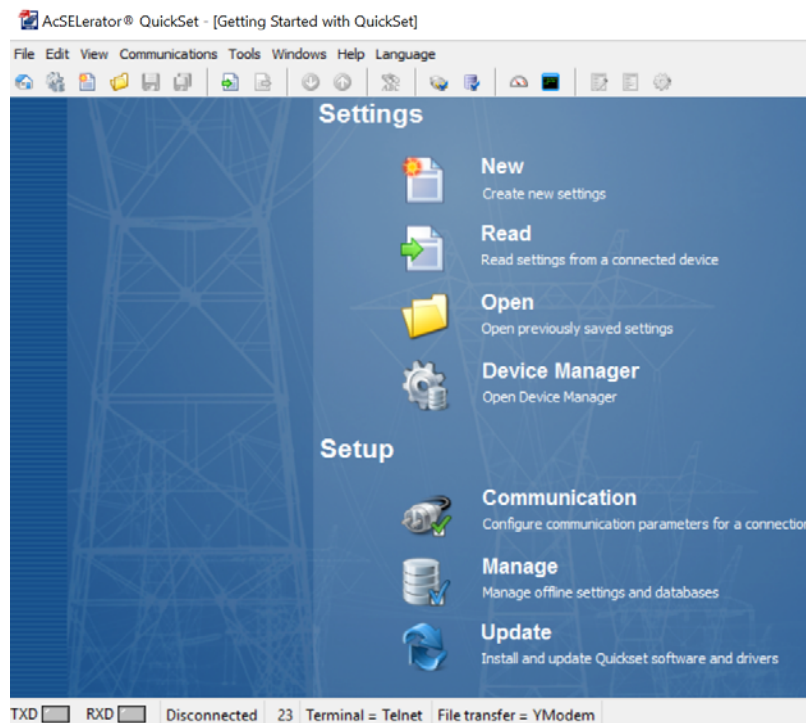
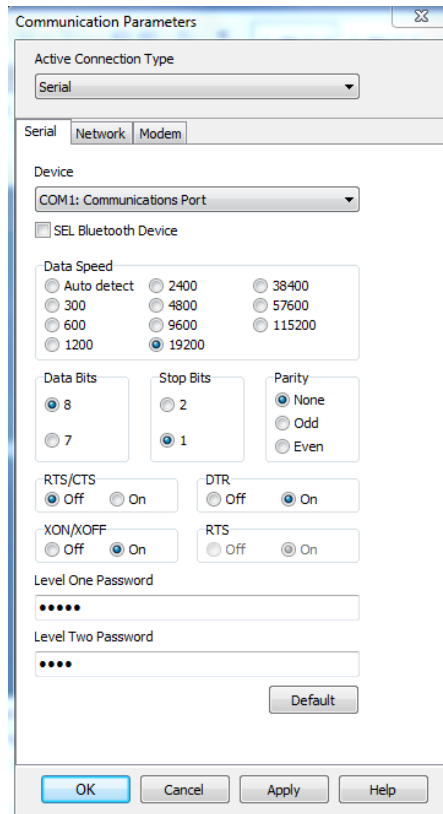

Figure 66: QuickSet Main Window
Figure 67: SEL-710 Communication Parameters Window
61. On the QuickSet main window (Figure 66), open the Communication Parameters window (Communications, Parameters) (Figure 67) to define and create a communication link with the 710. Enter the following information for a Serial Active Connection Type: